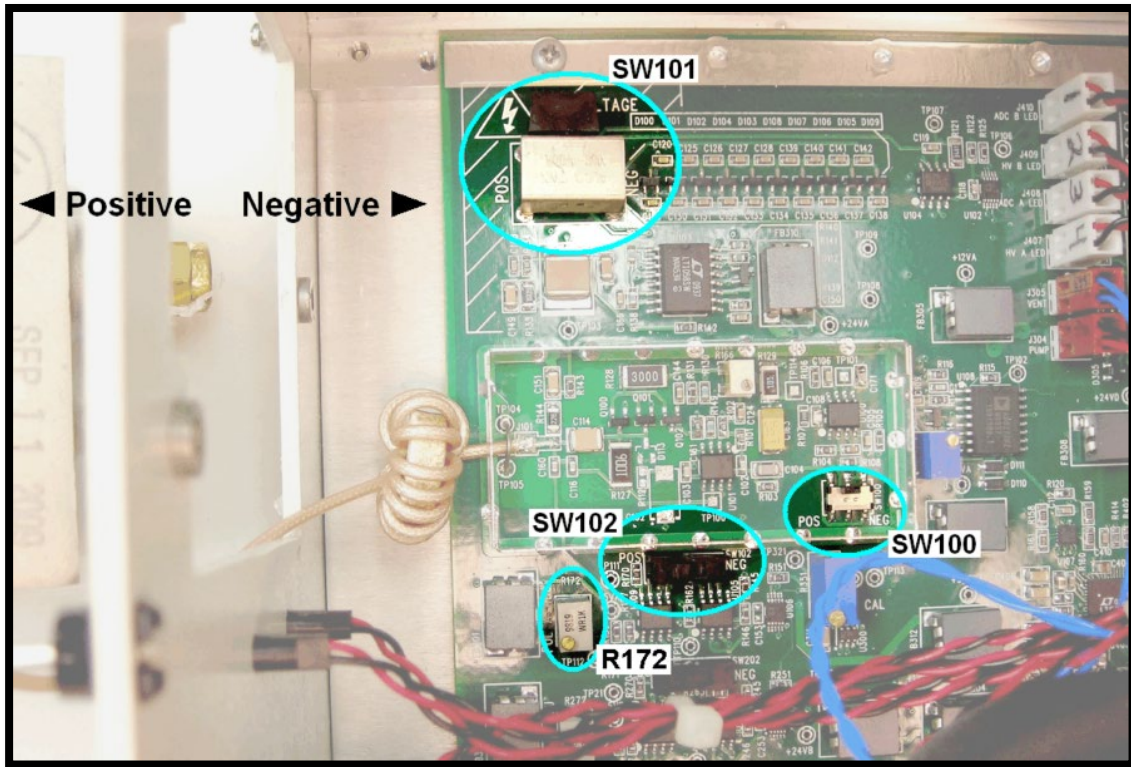

Figure 18. Polarity Switches and Pulser Adjustment for Left Chamber
- 6) Figure 18 highlights the three switches that control the polarity for the left chamber. Move the three sliders toward the back of the housing to switch them to negative polarity, or toward the front panel for positive polarity.
- 16) Referring to Figure 18, turn the pulser adjustment screw-potentiometer – R172 for the LEFT chamber and R272 for the RIGHT chamber – until the pulser peak is in channel 2246.